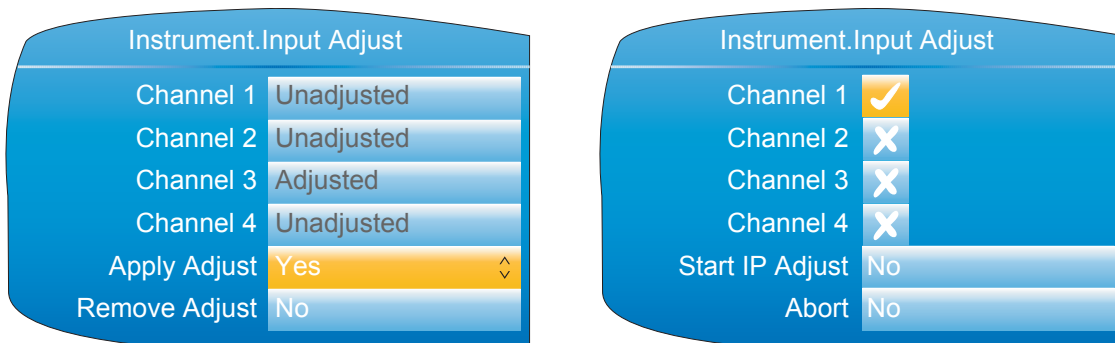

Figure 4.1.9b Channel adjustment procedure (1)
- As shown in figure 4.1.9b, highlight the 'Apply Adjust' field, and operate the scroll key to enter edit mode. Use the up or down arrow key to select 'Yes'. Use the scroll button to change Channel 1 'cross' to a 'tick' (check mark). Similarly select any other channels which require adjustment.